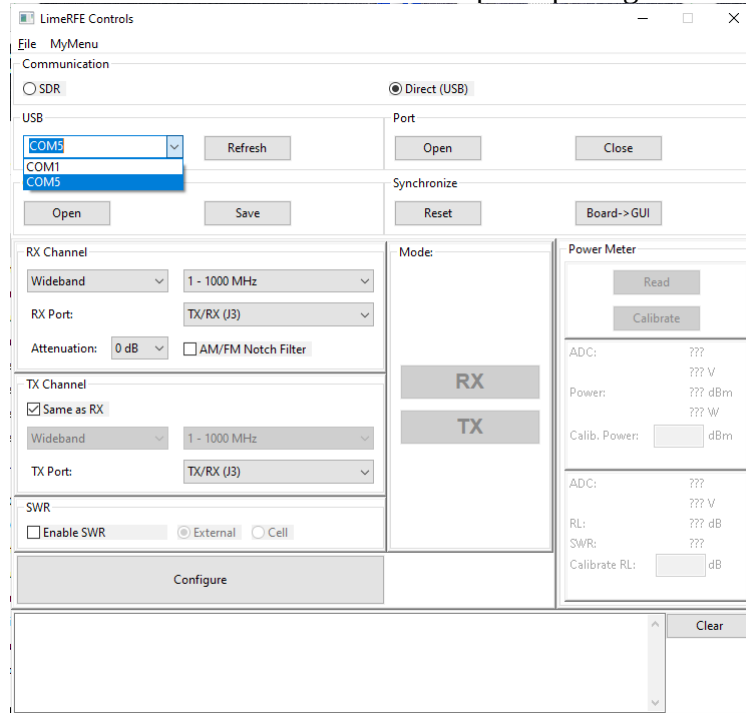

Figure 4: LimeRFE Controls window – Direct USB connection
- From a drop menu select appropriate COM port (Figure 4) and click Open Port button to open communication between the LimeRFE board and PC. Notification in *Message Display* panel will be shown after a successful port opening.